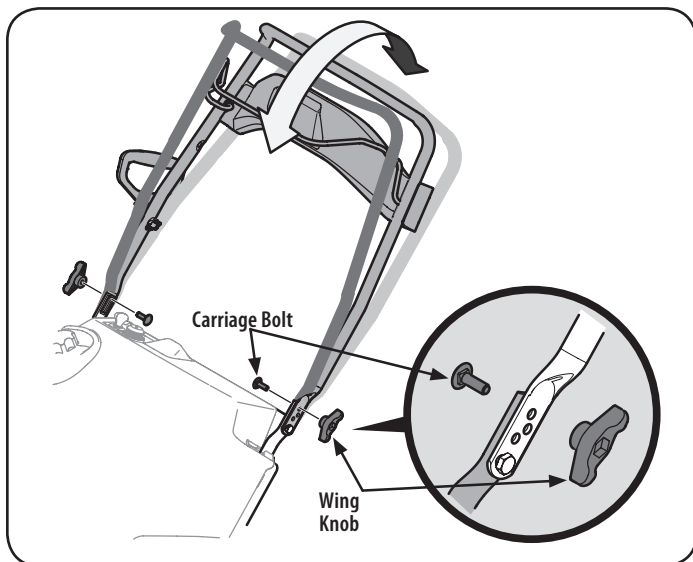

Figure 3
3. The handle can be set in three different positions. Place the handle in the desired position, then install wing knobs and carriage bolts in the appropriate hole and secure the handle. See Figure 3.